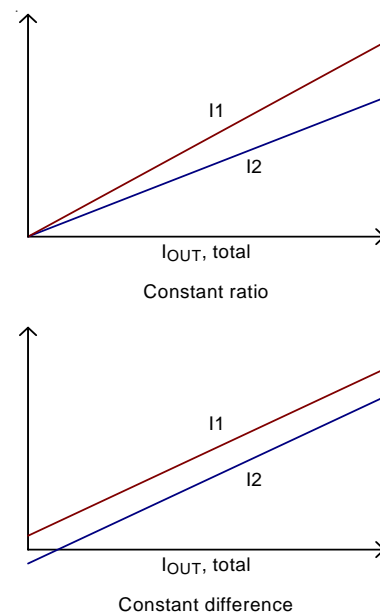

Figure 10. Category of Phase Current Imbalance
If phase current is not balanced due to asymmetric PCB layout of power stage, external resistors can be adjusted to correct current imbalance. Figure10 shows two types of current imbalance, constant ratio type and constant difference type. If the initial current distribution is constant ratio type, according to Equation (3), reducing $R_{CSN}[1]$ can reduce $I_L[1]$ and improve current balance. If the initial current distribution is the constant difference type, according to Equation (2), increasing $R_{CSP}[1]$ can reduce $I_L[1]$ and improve current balance.